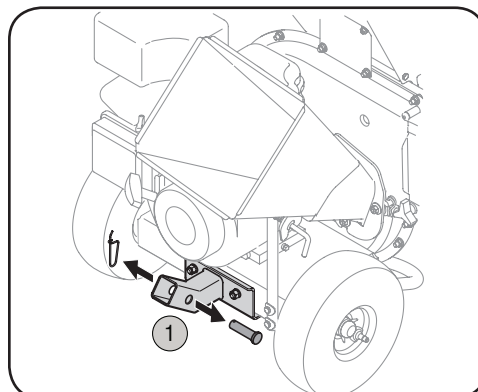

Figure 2-3
1. Remove the spring pin and clevis pin from the end of the tow bar receiver. See Figure 2-3.